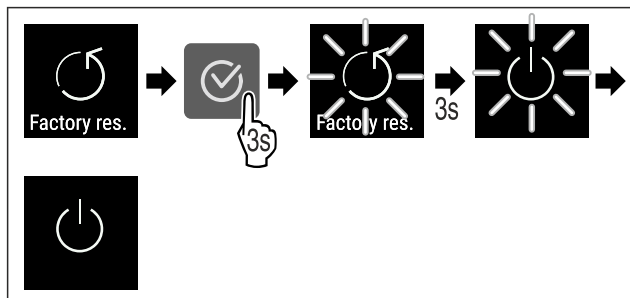

Fig. 102
- Complete the steps (see Fig. 102) .